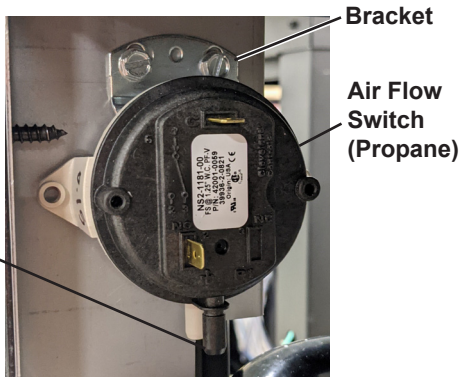

Figure 9.
- Remove the Air Flow Switch with the Red line on the label. See Figure 8. Remove the bracket from the Air Flow Switch and attach it to the new Air Flow Switch. Attach the bracket to the heater and secure PVC tubing to Air Flow Switch with the provided hose clamps. See Figure 9.